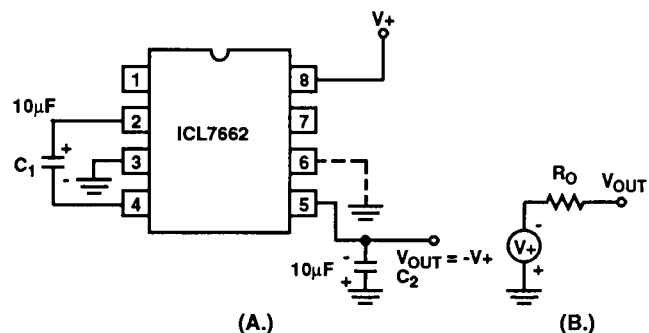

FIGURE 3. SIMPLE NEGATIVE CONVERTER AND ITS OUTPUT EQUIVALENT
The majority of applications will undoubtedly utilize the ICL7662 for generation of negative supply voltages. Figure 3 shows typical connections to provide a negative supply where a positive supply of +4.5V to 20.0V is available. Keep in mind that pin 6 (LV) is tied to the supply negative (GND) for supply voltages below 10V.
Figure 10 combines the functions shown in Figure 3 and Figure 9 to provide negative voltage conversion and positive voltage doubling simultaneously. This approach would be, for example, suitable for generating +9V and -5V from an existing +5V supply. In this instance capacitors C₁ and C₃ perform the pump and reservoir functions respectively for the generation of the negative voltage, while capacitors C₂ and C₄ are pump and reservoir respectively for the doubled positive voltage. There is a penalty in this configuration which combines both functions, however, in that the source impedances of the generated supplies will be somewhat higher due to the finite impedance of the common charge pump driver at pin 2 of the device.